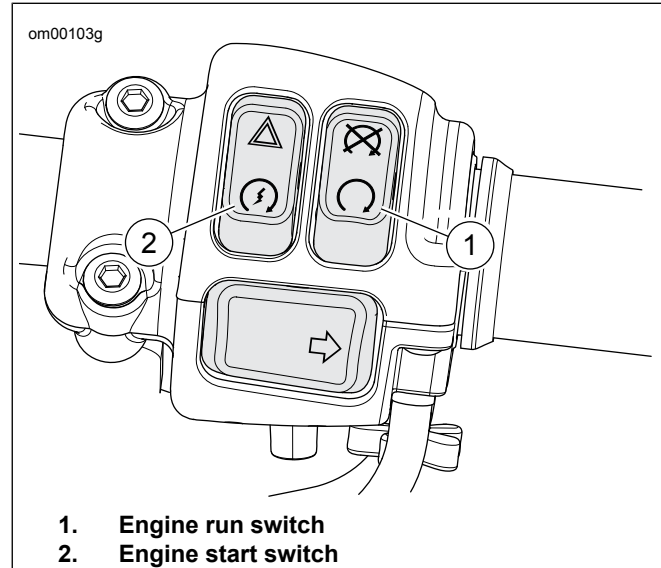

Figure 33. Right Handlebar Controls
2. See Figure 33. Switch the OFF/RUN switch to the RUN (1) position.